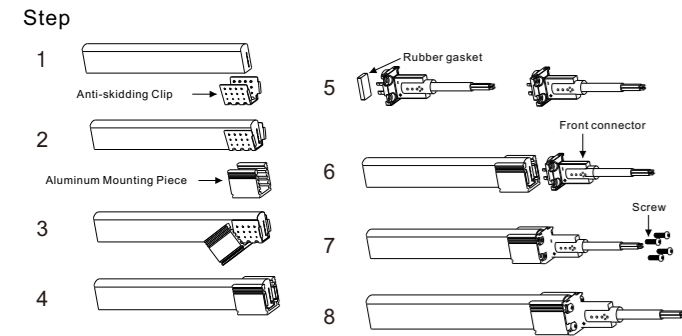

Fig. 9 IP68 End Cap Assemble
- Assemble light according to Fig. 8, Fig. 9 or Fig. 10 or Fig. 11.